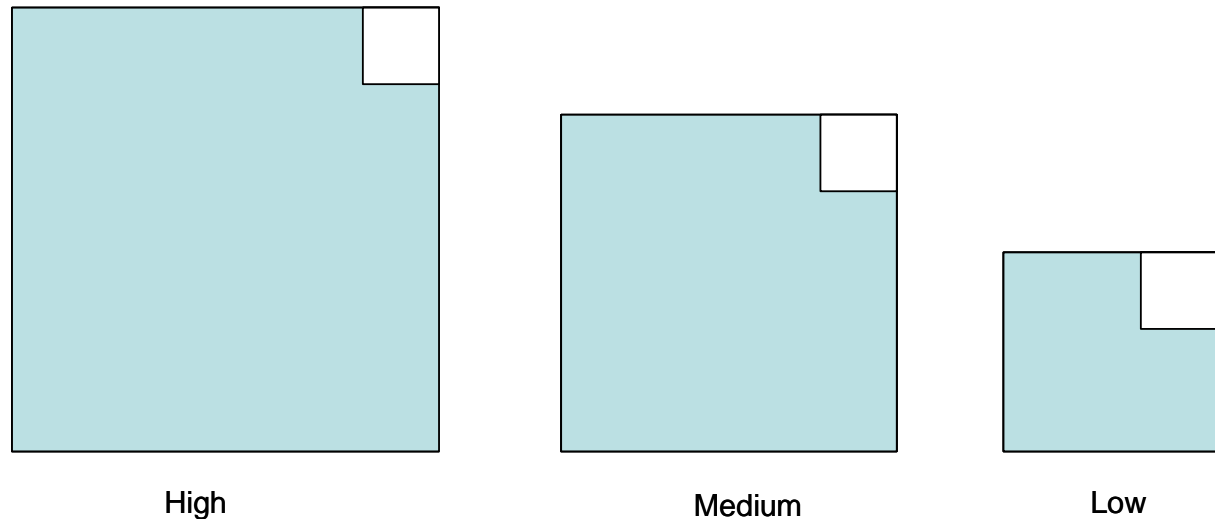

Figure 15
- ❖ The ratio of the light-sensitive area to the entire area of each detector element (pixel) is called **the fill factor** (Fig. 15). **It is desirable to have a high fill factor, because light photons that are not detected do not contribute to the image.**